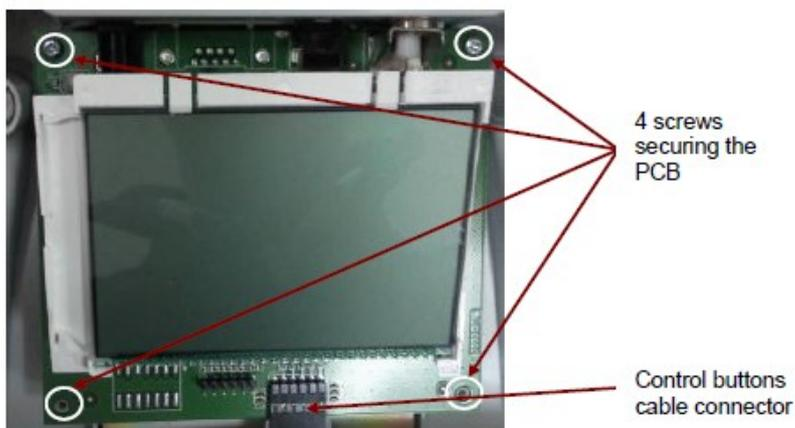

Figure 2-2. Main Printed Circuit Board with display.
3. Remove the four screws that secure the PCB to the bottom housing (Fig 2-2).